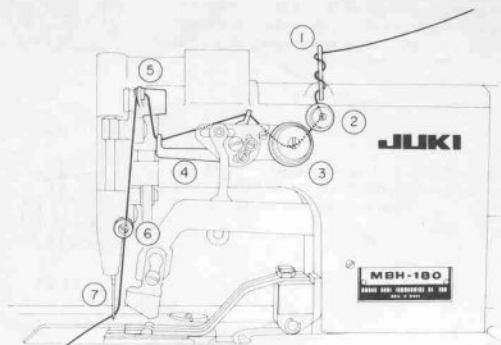

Fig. 11
Bring the needle bar to the top and pass a thread according to the numerical order as shown in Fig. 11.
When you use a soft twisted thread, pass it through 3 holes of the thread retainer ① as illustrated in Fig. 11. But in the case of a hard twisted thread, pass it through 2 holes as Fig. 12 shows. Cotton thread is usually passed through 2 holes.